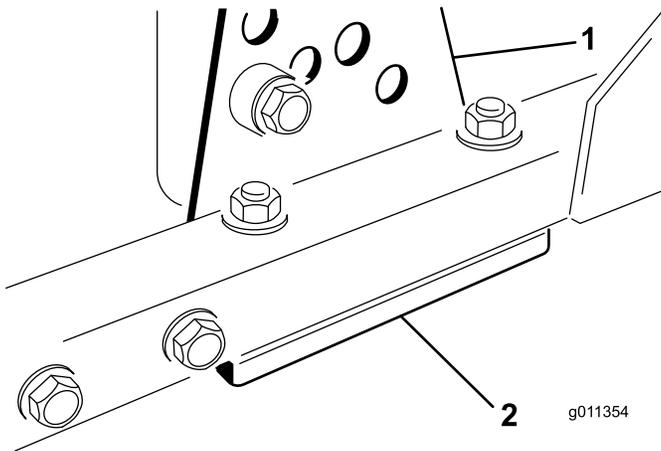

Figure 64
- Remove the height of cut bracket, (front, left, or right) from the cutting unit frame (Figure 64).
- Adjust 1.5 mm (0.060 inch) shims and/or 0.7 mm (0.030 inch) shim between the cutting unit frame and bracket to achieve the desired height setting (Figure 64).